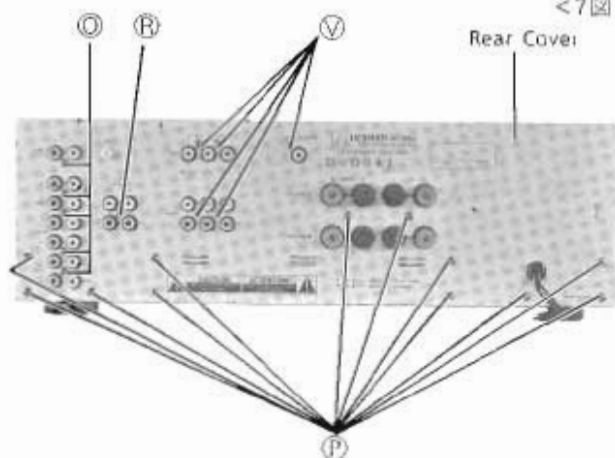

Figure 8
- (1) Remove six screws marked "④" as shown in Figures 8 and 9.
- (1) Remove twelve screws marked "Ⓟ" as shown in Figure 8.
- (2) Disconnect all wires from the AC Outlet, AV Monitor and ADP P.C. Board.
- (3) The rear cover with AV Monitor and ADP P.C. Board can be removed Completely.
- (1) Remove five screws marked "Ⓢ" as shown in Figure 8.
- (1) Remove one screw marked "Ⓡ" as shown in Figure 8.